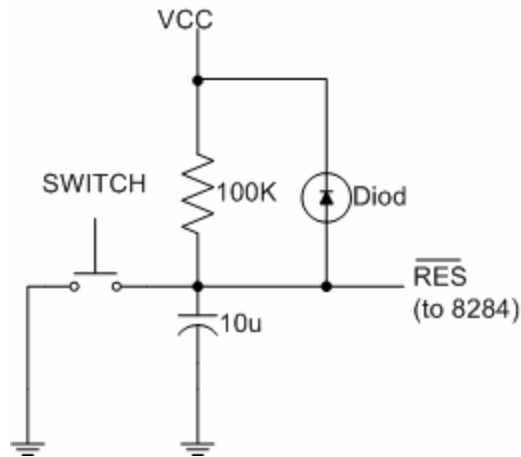

Figure 1.3: Reset Circuit
3. Implement the RESET circuit shown in Figure 1.3, and make sure that any change from 0 to 1 must have duration of at least 50us. Test the reset signal using the oscilloscope and show the resulting signal to your instructor.